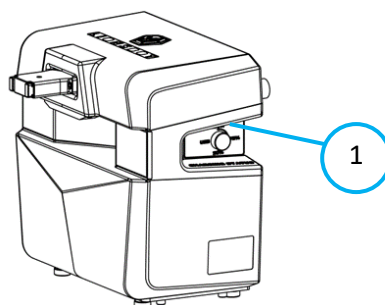

Fig. 1
1. To lift station place hands on the cavity (Fig. 1 – 1) located on the side of the station.